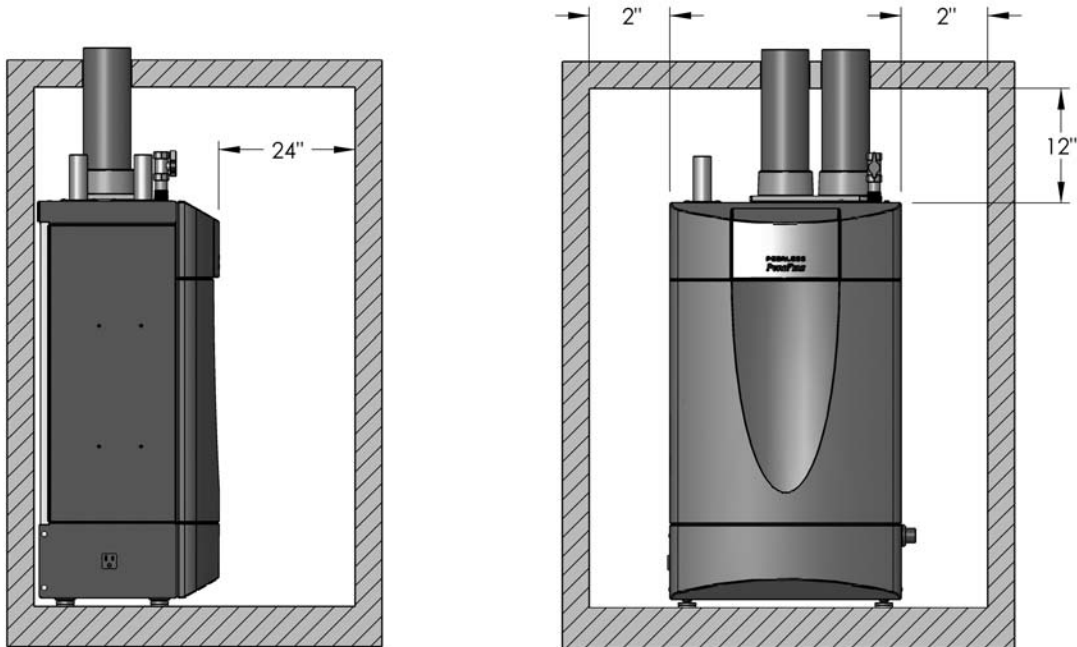
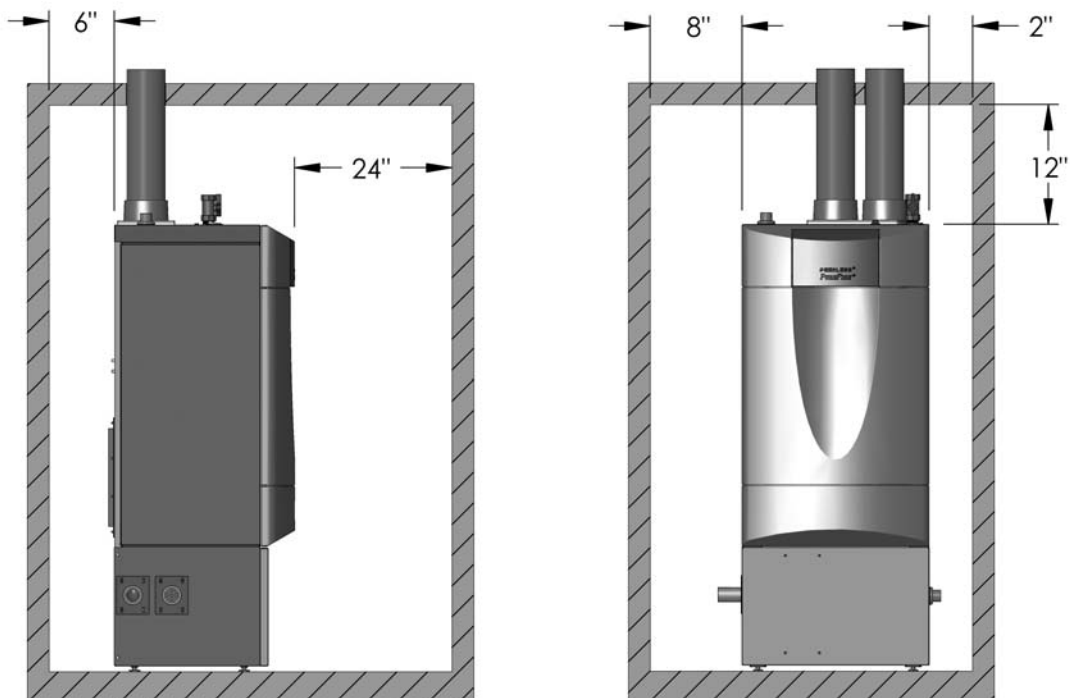

Figure 1.1: Minimum Accessibility Clearances – PF-50, PF-80, PF-110 & PF-140
Figure 1.2: Minimum Accessibility Clearances – PF-210 & PF-399
2. Figure 1.1 shows the minimum recommended clearances to allow reasonable access to the boiler for Models PF-50, PF-80, PF-110 and PF-140. For Models PF-210 & PF-399, Figure 1.2 shows the minimum recommended accessibility clearances. However, Local codes or special conditions may require greater clearances.